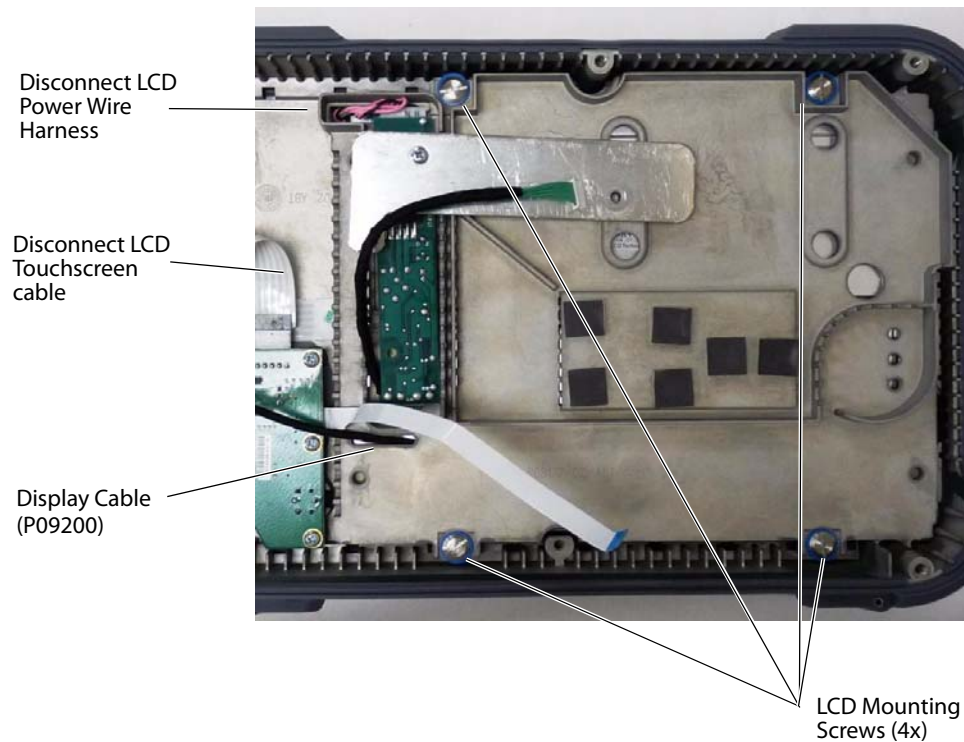

Figure 4.10 LCD Removal
- 2 Disconnect the LCD Power Wire Harness from the Display Backlight Inverter PCB as shown in Figure 4.10.
- 3 Disconnect the Touchscreen cable from the User Interface PCB as shown in Figure 4.10.
- 4 Remove the four LCD frame mounting screws shown in Figure 4.10.
- 4 Insert the Display Housing with LCD into the front enclosure and loosely install the four mounting screws as shown in Figure 4.10 on page 22.
- 8 Reconnect the LCD Power Wire Harness and dress the cable as shown in Figure 4.10 on page 22.